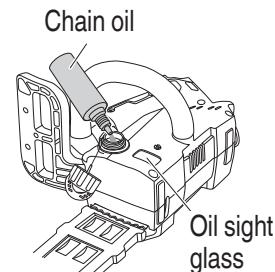

Fig. 18
- This unit is delivered without chain oil inside. Ensure the oil tank is filled with the chain oil provided before use. (Fig. 18)